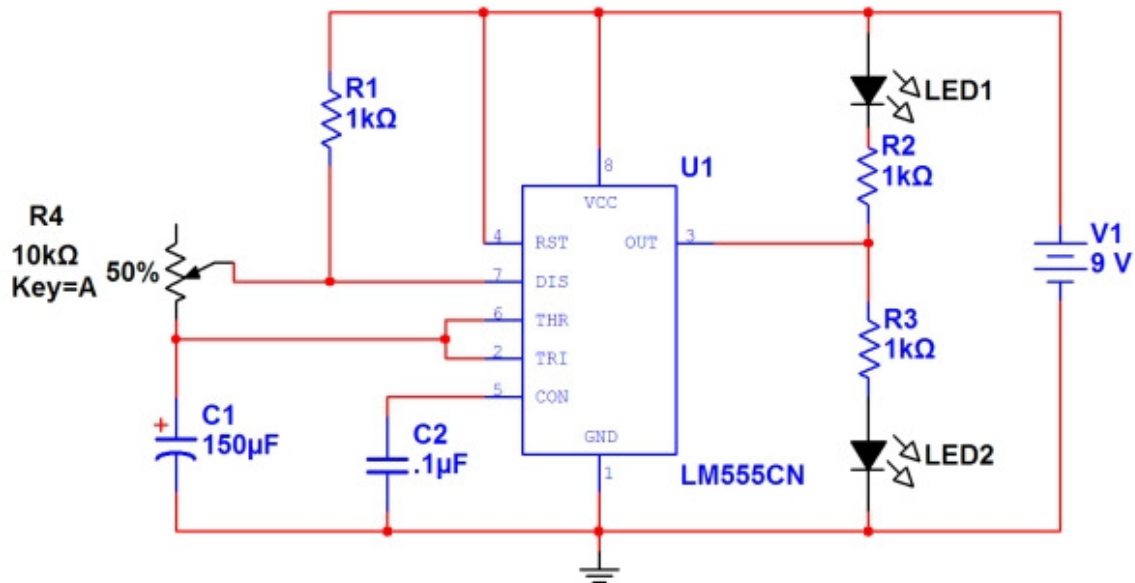

Figure 1: 555 timer circuit
The general layout of the timer chip is shown in Figure 1 for convenience.
3. Draw an updated schematic, adding a capacitor bank to your lab 7 schematic in place of the original  $C_1$ . An example capacitor bank schematic is shown in Figure 1 below, with the upper frequency for each capacitor noted. In this application, a jumper wire is used to select which capacitor will be used by connecting node A to the desired capacitor. When you build the circuit you will not use a bank, you'll simply replace the capacitor with another one.